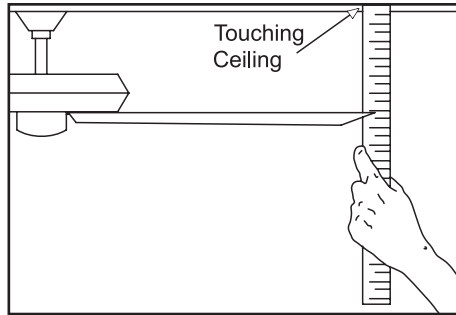

Figure 15
2. Most fan wobble problems are caused when blade levels are unequal. Check this level by selecting a point on the ceiling above the tip of one of the blades. Measure from a point on the center of each blade to the point on the ceiling. Measure this distance as shown in Figure 15. Rotate the fan until the next blade is positioned for measurement. Repeat for each blade. Measurement deviations should within 1/8". Run the fan for 10 minutes.